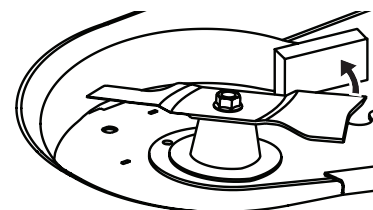

Figure 61
- Secure the blade from turning counterclockwise during service by placing a block of wood between the blade and the deck housing (Figure 61), or wrap a rag around one end of the blade and wear heavy gloves to grasp the blade firmly.